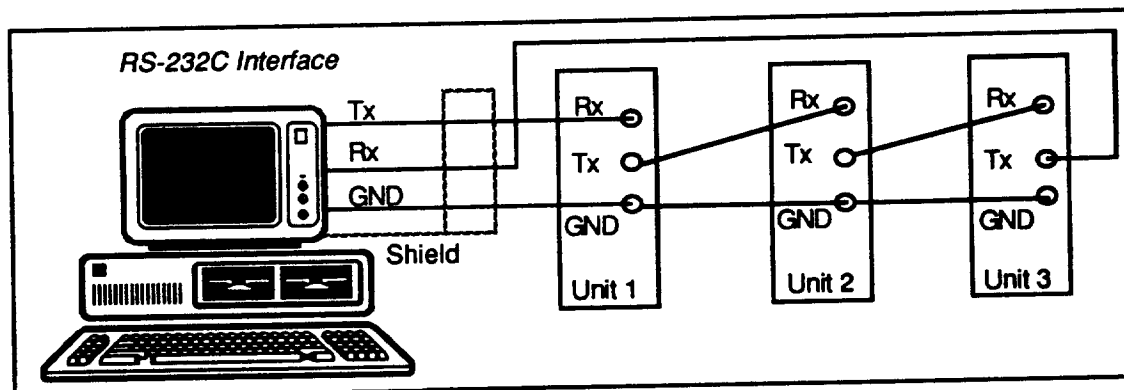

Figure 4-7. RS-232C Daisy Chain Configuration
Refer to Figure 4-7 for an example of proper daisy chain wiring. The configuration for proper operation with the -1 and -2 decoder is different. *Check the configuration instructions in Chapter 2, Getting Started and complete the steps provided below before wiring the daisy chain to ensure that your system is properly configured.*
Step 5 Refer to Figure 4-7 and wire the daisy chain configuration as shown.
Step 6 Apply power to the three decoders and the computer/terminal. Press the space bar on your keyboard. If the cursor on the screen moves, you are receiving an echo. This indicates that the RS-232C communication link is working properly (from computer/terminal to decoder and from decoder back to computer/terminal). If your cursor does not move when you press the space key, check your wiring connections (refer to Figure 4-7 and repeat this step. If the problem persists, refer to Chapter 7, Maintenance & Troubleshooting.